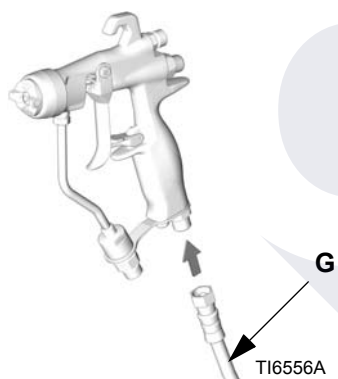

FIG. 2
5. Connect the air hose (G) to the 1/4 npsm gun air inlet. See FIG. 2.